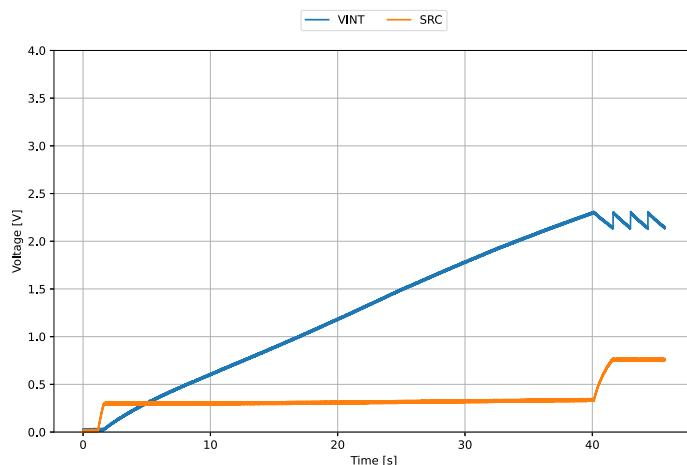
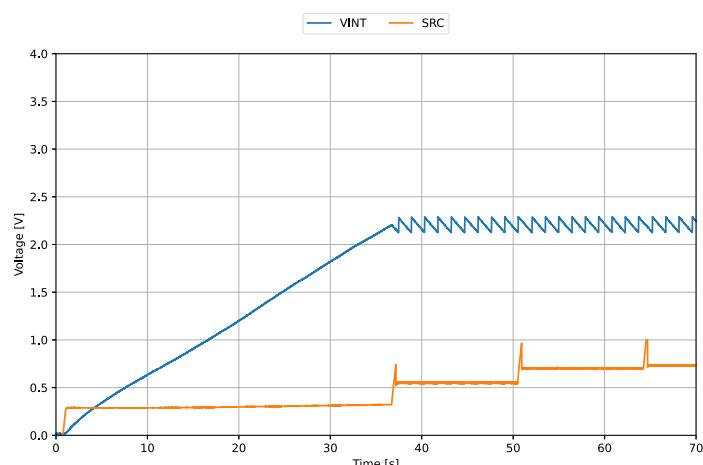

Figure 4: AEM11900 cold-start behavior in constant voltage mode
Figure 5: AEM11900 cold-start behavior in MPPT ratio mode
- For constant voltage mode (Figure 4):
- For MPPT ratio mode (Figure 5):
- Once  $V_{INT}$  has reached its regulation voltage, the AEM11900 will regulate  $V_{SRC}$  either to  $V_{SRC,REG}$  if in constant voltage mode (see Figure 4), or to  $V_{MPP}$  with  $V_{OC}$  evaluations every 15 s if in MPPT ratio mode (see Figure 5).
- Note that, in MPPT ratio mode (see Figure 5), during the first  $V_{OC}$  evaluation, the source current is insufficient to charge  $C_{SRC}$  up to the  $V_{OC}$  within  $T_{MPPT,SAMPLING}$ , resulting in a lower  $V_{MPP}$  compared to the target. However, the following evaluations allow a correct measurement of  $V_{OC}$  and thus, an accurate source voltage regulation. This behavior is explained in Section 3.3.2.